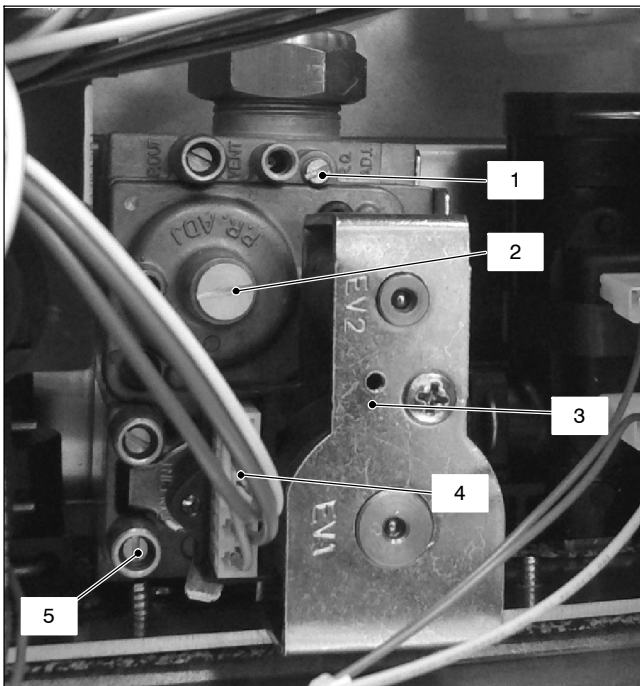

Fig. 11.2
11.2 Description of the parts (Fig. 11.2)
- 3 Loosen the internal screw on the Inlet Pressure Test Point 5 (Fig. 11.2) of the Gas valve and connect a pressure gauge using a suitable hose.
- 10 Disconnect the pressure gauge and close the Inlet Pressure Test Point 5 (Fig. 11.2).
To adjust the CO₂ % value remove the brass plug by unscrewing it and rotate the Allen key screw ø 4 mm (2 – Fig. 11.2) (by rotating it clockwise the CO₂ % increases).
To adjust the CO₂ % value rotate screw (1 – Fig. 11.2) (by rotating it clockwise the CO₂ % decreases).
- 26 After adjustment fit the protective brass plug (2, Fig. 11.2).
- 2 Disconnect the electrical connector 4 (Fig. 11.2).